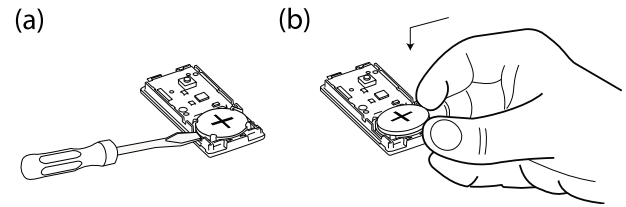

Figure 9: Battery removal and insertion
2. Wedge a flat head screwdriver under the battery. See Figure 9 (a).
**Note:** When you insert the battery, the (+) symbol should be visible and not the (-) symbol. See Figure 9 (b).